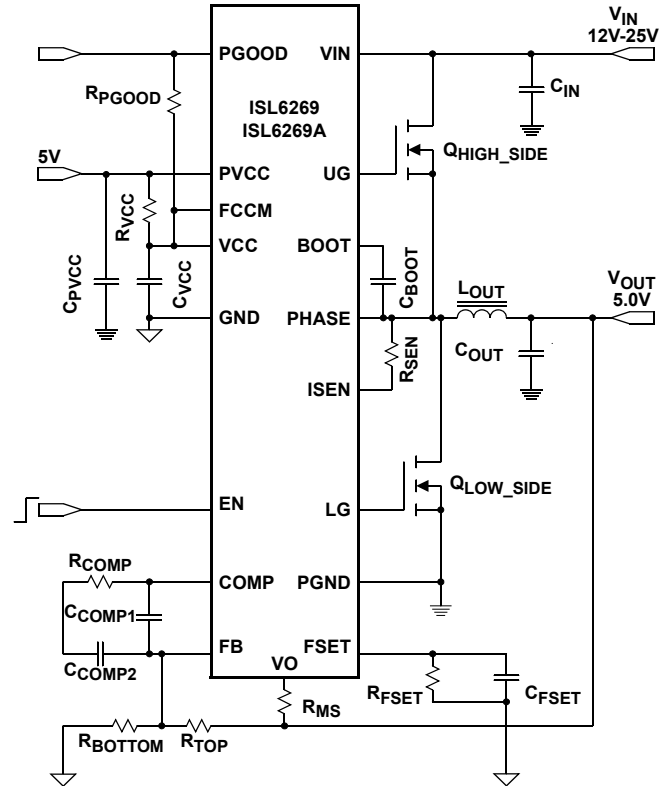

FIGURE 5. SCHEMATIC OF 5V V_{OUT} APPLICATION
- A 499Ω resistor R_{MS} is placed in series with the VO pin to protect the internal ESD diode that is connected to V_{CC} . The ESD diode will conduct current into the V_{CC} node in the unlikely event where the tolerance stack up of V_{CC} , V_{FB} , I_{FB} , V_{OVR} , R_{TOP} , and R_{BOTTOM} results in a voltage sufficient to forward bias the device. Refer to Figure 5.